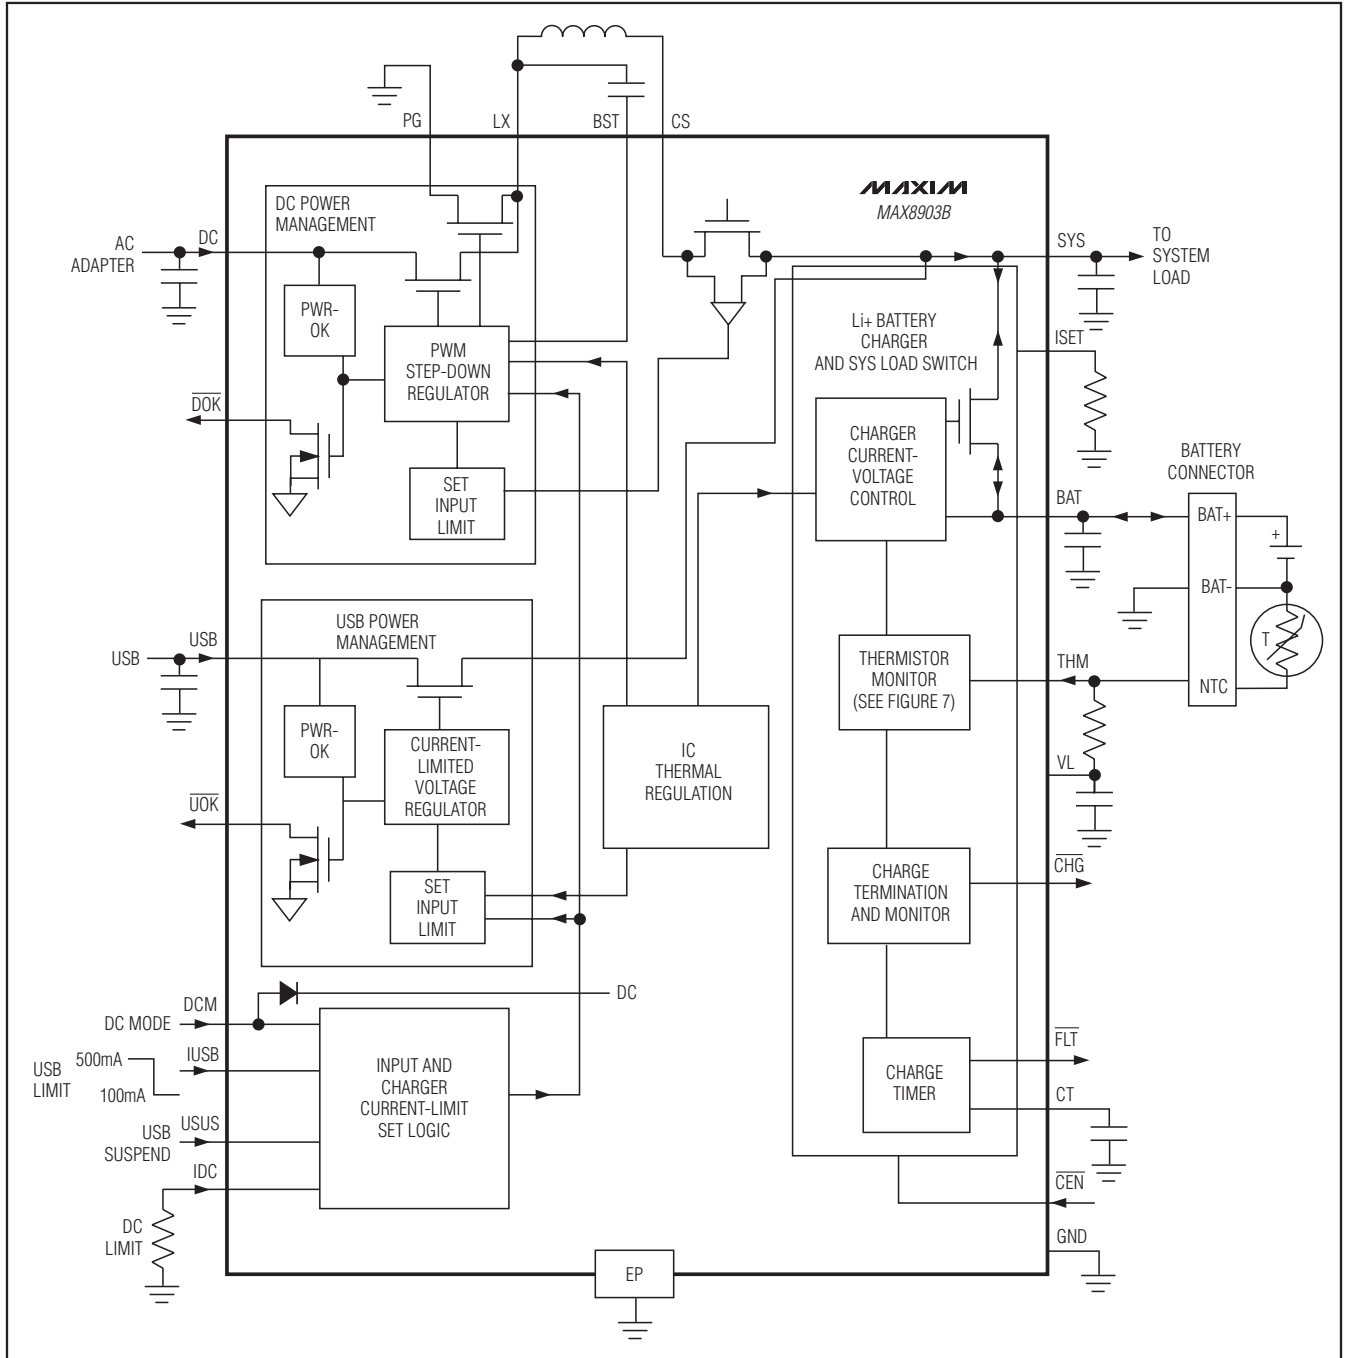
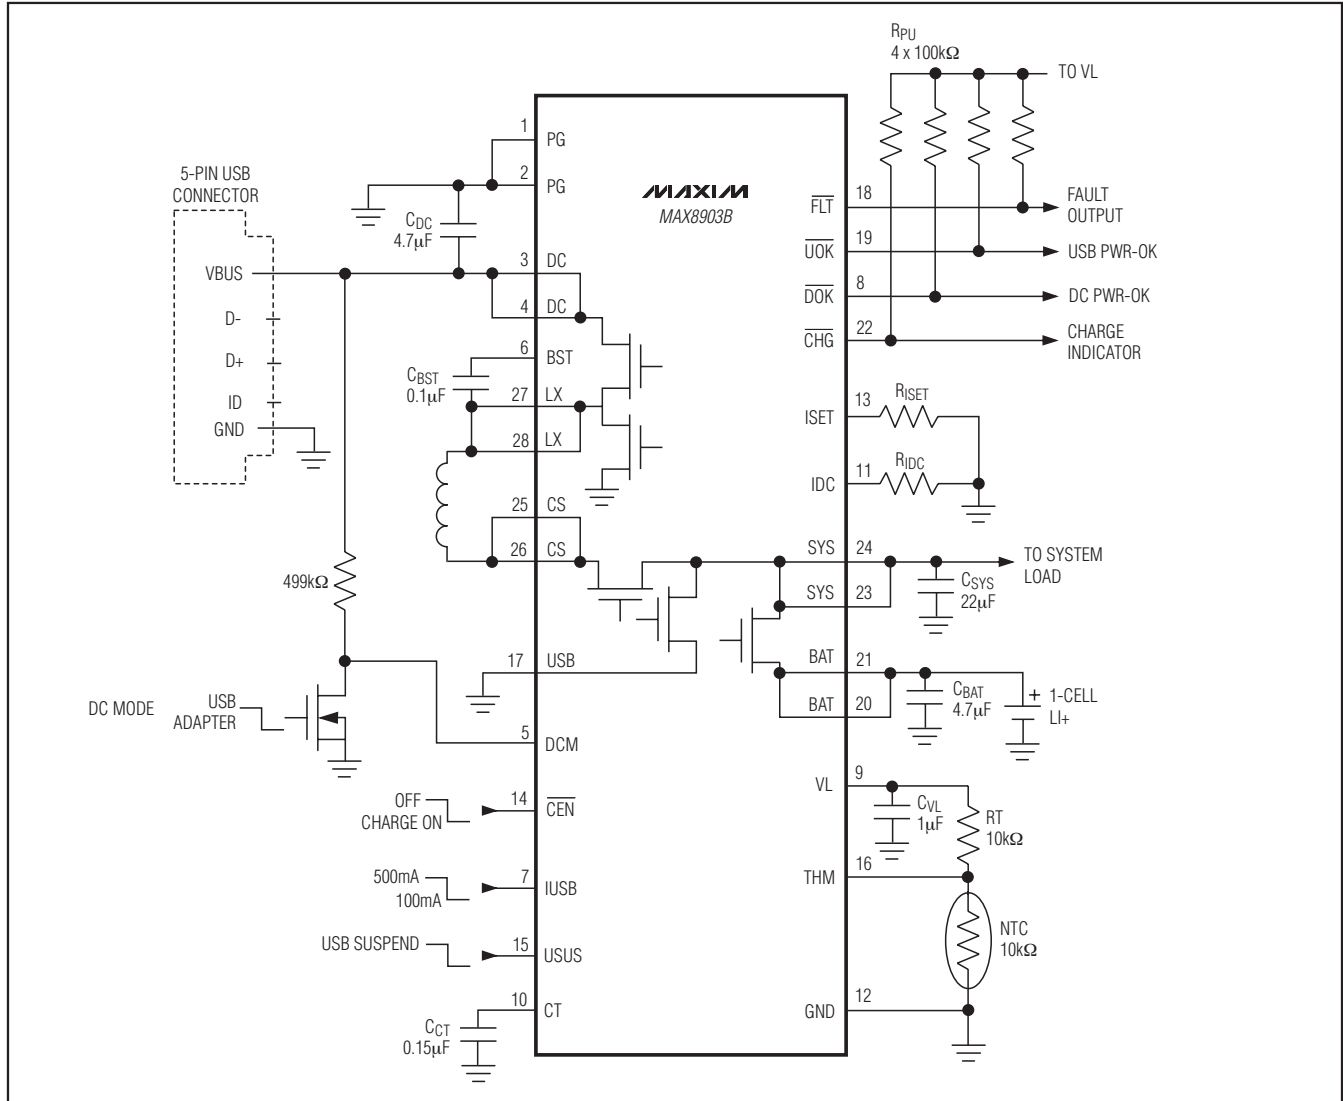

Figure 1. Functional Diagram
Figure 3. Typical Application Circuit Using a Mini 5 Style Connector or Other DC/USB Common Connector
| 5 | DCM | Current-Limit Mode Setting for the DC Power Input. When logic-high, the DC input current limit is set by the resistance from IDC to GND. When logic-low, the DC input current limit is internally programmed to 500mA or 100mA, as set by the IUSB logic input. There is an internal diode from DCM (anode) to DC (cathode) as shown in Figure 1. |
As shown in Figure 1, the IC includes a full-featured charger with thermistor monitor, fault timer, charger status, and fault outputs. The IC also includes power-OK signals for both USB and DC. Flexibility is maintained with adjustable charge current, input current limit, and a minimum system voltage (when charging is scaled back to hold system up).
The DCM pin has an internal diode to DC as shown in Figure 1. To prevent current from flowing from DCM through the internal diode and to the DC input, DCM cannot be driven to a voltage higher than DC. The circuit of Figure 3 shows a simple MOSFET and resistor on DCM to prevent any current from flowing from DCM through the internal diode to DC. This circuit of Figure 3 allows a microprocessor to drive the gate of the MOSFET to any state at any time.
An alternative to the simple MOSFET and resistor on DCM as shown in Figure 3 is to place a $1M\Omega$ resistor in series with the DCM input to the microprocessor. The microprocessor can then monitor the \overline{DOK} output and make sure that whenever \overline{DOK} is high DCM is also low. In the event that DCM is driven to a higher voltage than DC, the $1M\Omega$ series resistance limits the current from DCM through the internal diode to DC to a few μA .
***There is an internal diode from DCM (anode) to DC (cathode) as shown in Figure 1. If the DCM level needs to be set by a μP , use a MOSFET for isolation as shown in Figure 3.